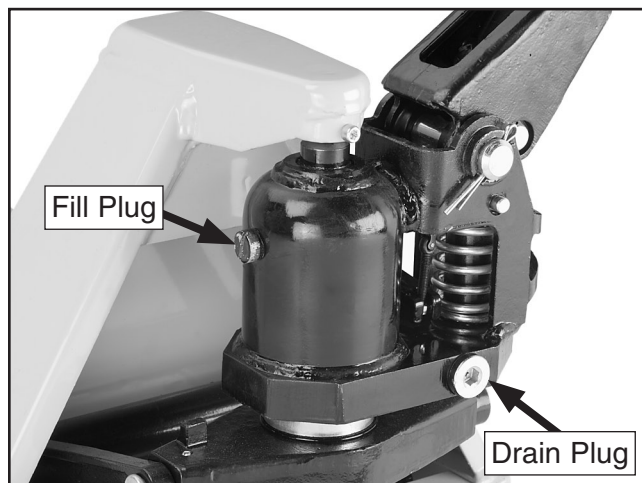
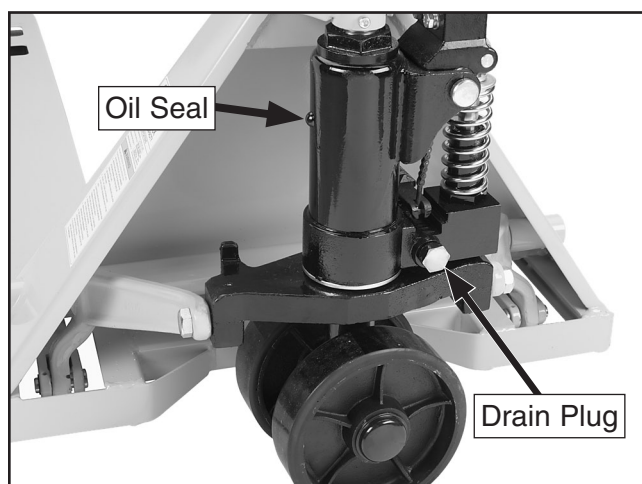

Figure 11. Location of Model H6287/H6288 oil fill and drain plugs.
Figure 12. Model H6289 oil seal and drain plug.
2. Remove the fill plug on the Model H6287-88 (see **Figure 11**) or the oil seal on the Model H6289 (see **Figure 12**).